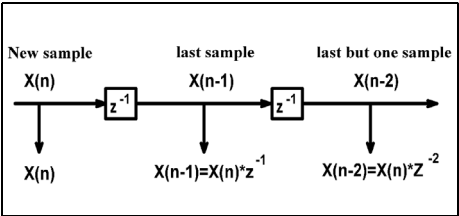

Fig 8: The Z transform working on the sampled value.
- In a block diagram each element has a value z^{-1} that represents the storage of the previous sampled value. Fig 8 shows how a draft filter diagram could look and with this knowledge we can understand the structure the FIR filter.